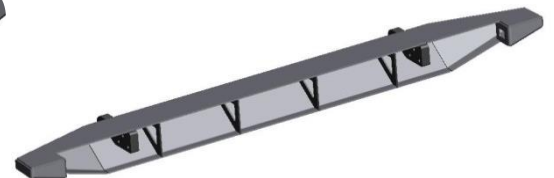

Figure 4
4. You now have the main bumper shell tacked together. **(Figure 4)**